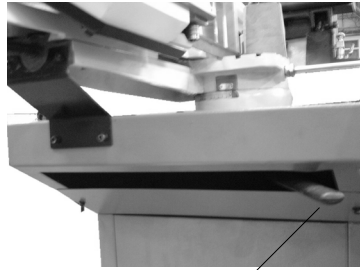

Fig.6 A
1. Pull out the bar (A) (fig. 6) swing and hold the bar.
3. Push to turn the swivel base to desired angle. Refer to scale on (B) for degree.
4. Lock the bar (A), then start the cutting.